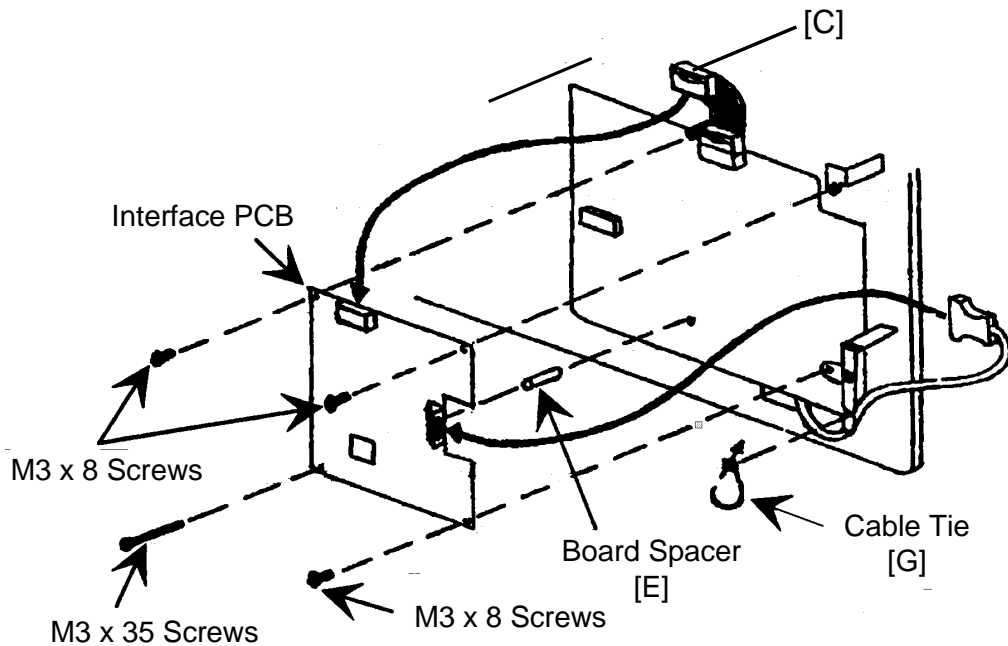

FIGURE 2:
8. Remove and discard the mounting screw (not shown) from lower right corner of the Main Control Board. Refer to figure 2.